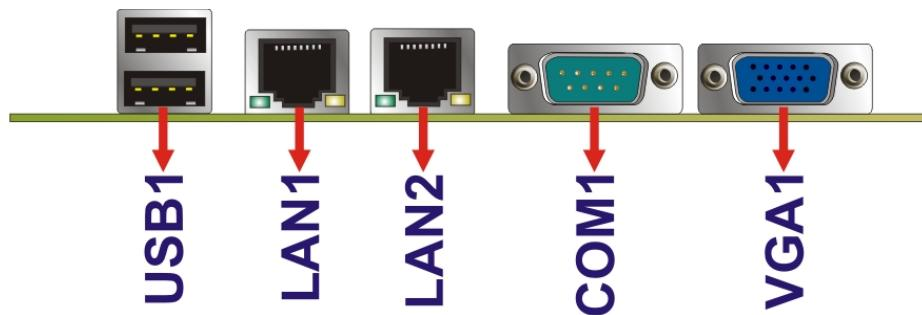

Figure 3-20: External Interface Connectors
Figure 3-20 shows the WAFER-PV-D5251/N4551 motherboard external interface connectors. The WAFER-PV-D5251/N4551 on-board external interface connectors are shown in Figure 3-20.
**CN Location:** See **Figure 3-20**